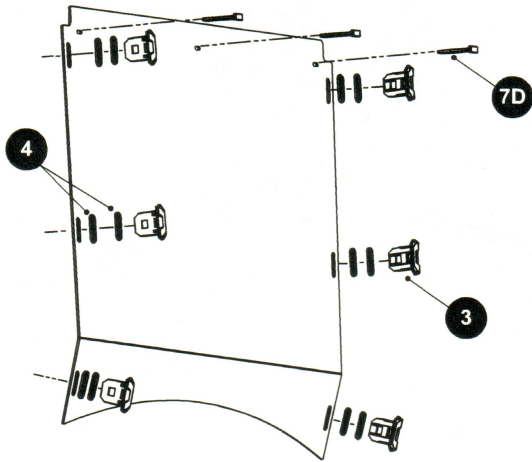
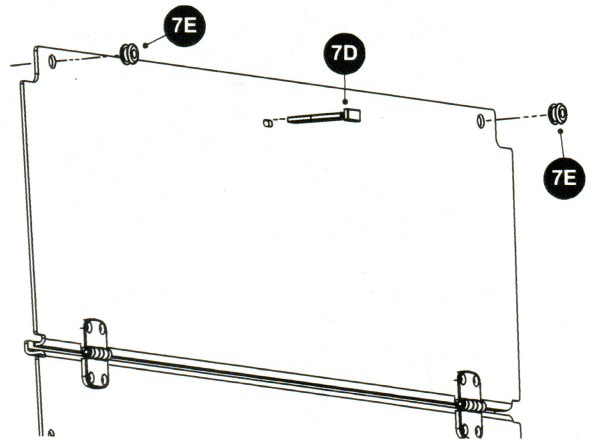

Fig. 4
Fig. 5
1. Insert clips (3) each with two gaskets (4) into slots of windshield, as shown in Fig. 4.
2. Insert latches (7D) or grommets (7E) into the top of the windshield, as shown in Fig. 4 and Fig. 5.
NOTICE: Full Windshield (682913) to use three rubber latches (7D) across top, as shown in Fig.4. Orientation shown in Fig. 5 for Split Windshield (682912).